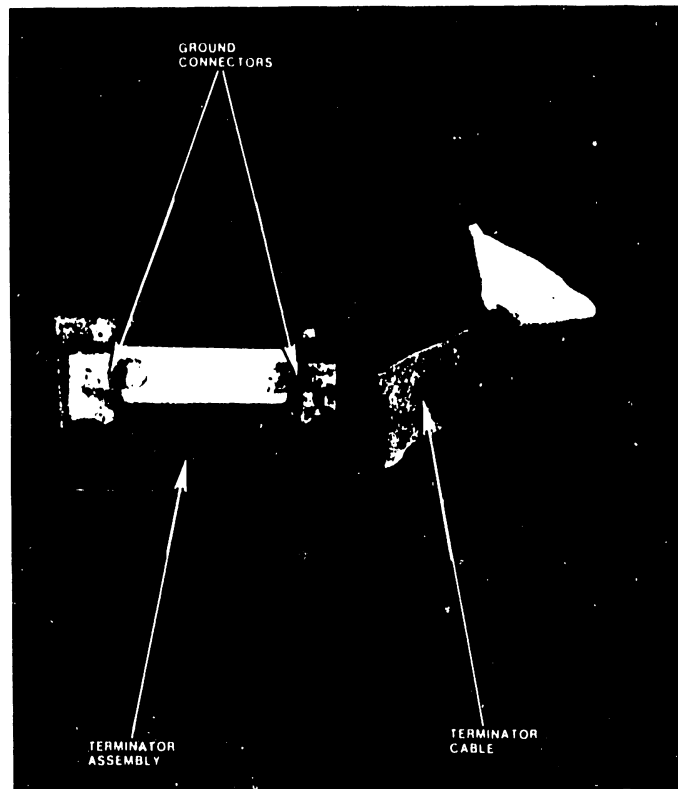
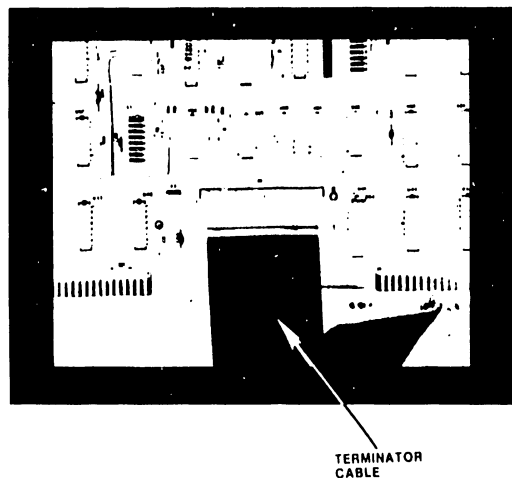

FIGURE 8
FIGURE 9
5. Remove the two-5x11mm Metric hex-head cap screws (figure 1 or 2) holding the terminator assembly (shown in figure 8) to the rear of the base. Disconnect the terminator cable from the bottom of the Interface PC card (figure 9), remove the green and yellow ground wire from the terminator, and lift out the terminator assembly. (The ground wire may not be installed in some printers.) Use a 7mm nut driver to remove the cap screw securing the ground wire.
6. Install two ground connectors on the terminator as shown in figure 8.